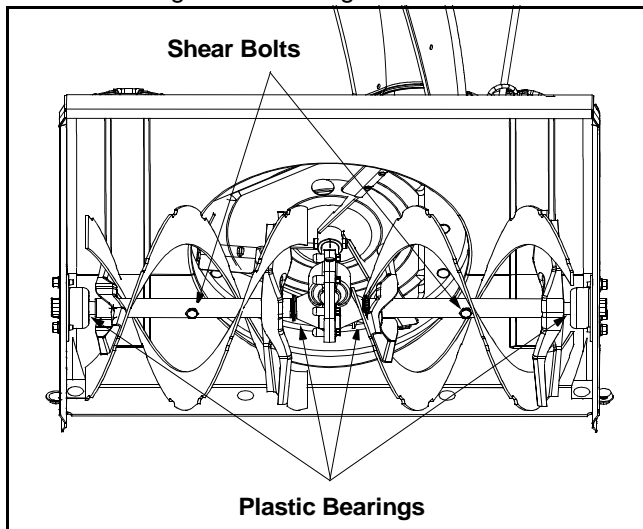

Figure 23
- At least once a season, remove the shear bolts on the auger shaft. Oil or spray lubricant inside and on the plastic bearings on the shaft and near the holes where the shear bolts were removed before reattaching them. See Figure 23.